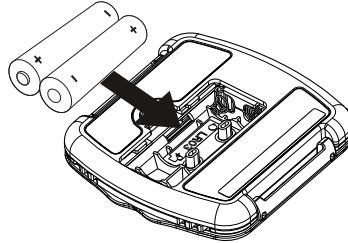

Figure 4. Inserting new batteries.
3. Remove the depleted batteries, and insert new, Medtronic-supplied AAA alkaline batteries. Correct battery polarity is indicated inside the battery compartment (Figure 4).